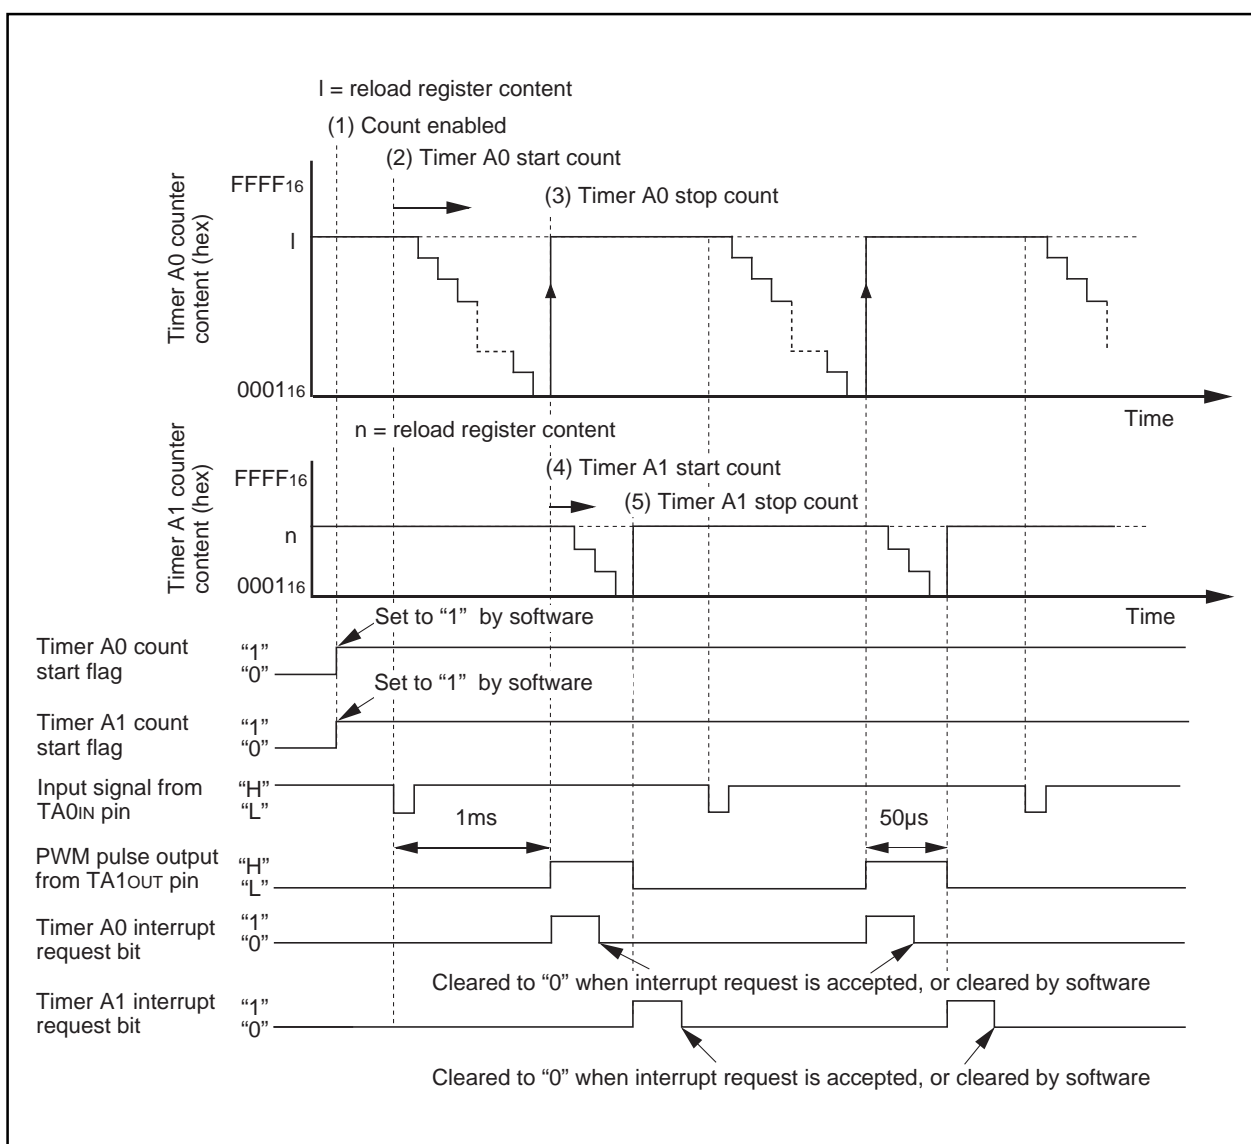

Figure 3.3.1. Operation timing of delayed one-shot output
**Overview** The following are steps of outputting a pulse only once after a specified elapse since an external trigger is input. Figure 3.3.1 shows the operation timing, Figure 3.3.2 shows the connection diagram, and Figures 3.3.3 and 3.3.4 show the set-up procedure.